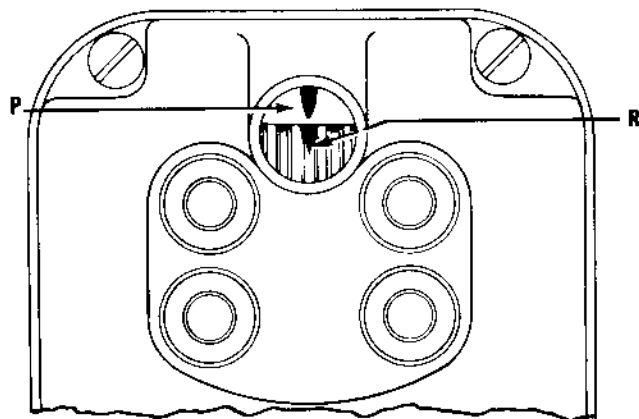
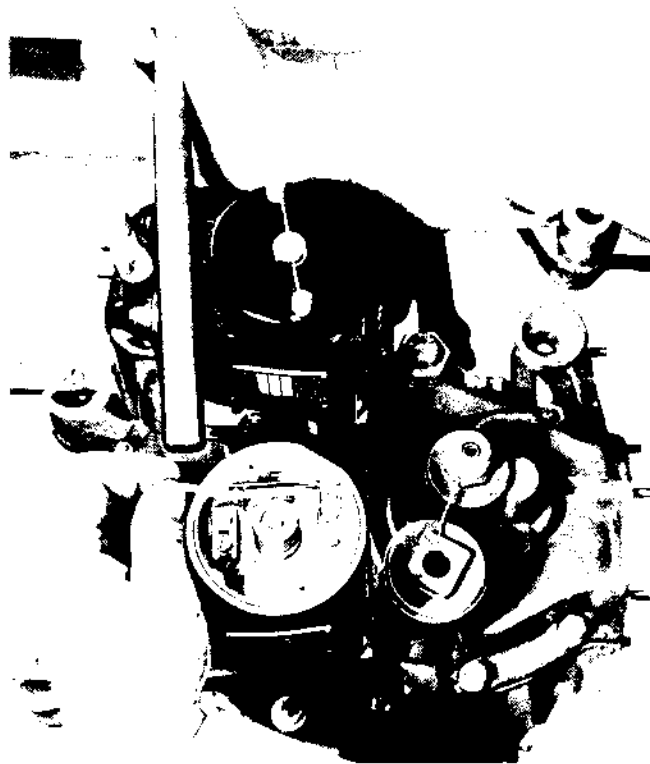

Figure 41. Showing Magneto Timing Marks.
Figure 42. Timing Magneto.
(1) Set the piston of cylinder No. 1 at its firing position.
(2) Place the breaker in its full advance position (if variable spark magneto).
(3) Rotate the magneto drive shaft until the timing mark R on the chamfered tooth of gear, Fig. 41, and timing pointer P are opposite each other as seen through the timing window in the magneto cover. At this position the breaker contacts should begin to open.
(4) All adjustments for exact timing to the engine are made at the drive end and not by altering the position of the contact points. Insure that the mounting faces are clean and smooth. With the timing marks P and R
(Fig. 41) opposite each other, install the magneto on the engine and secure with its mounting bolts. Exact timing is obtained by turning the magneto through the angle provided by the slots in the magneto flange. A convenient way of checking this adjustment is to place a strip of .0015" shim stock between the contact points and pull on it slightly. When the shim stock slips, the contact points are just opening. (Fig. 42.)
(1) Place the breaker in its full advance position (if variable spark magneto).
(2) Turn the drive shaft until the mark R (Fig. 41) on the chamfered tooth of the large distributor gear is opposite the timing pointer P inside the magneto cover as seen through the timing window. When these two marks are opposite each other, the breaker contacts should be just opening. A convenient way of checking this adjustment is to place a strip of .0015" shim stock between the contacts and pull against it slightly. When the shim slips, the contacts are separating.